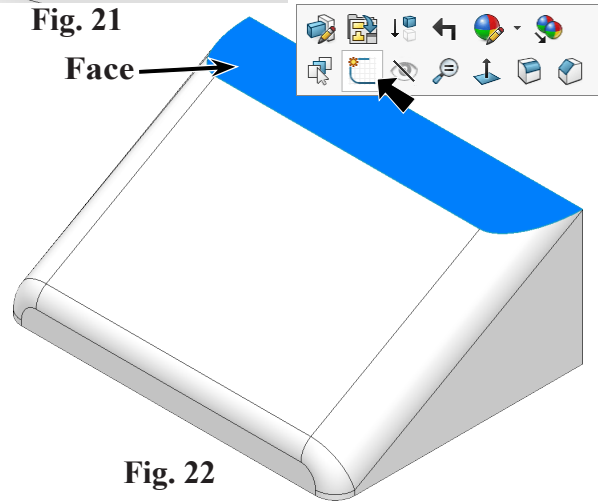
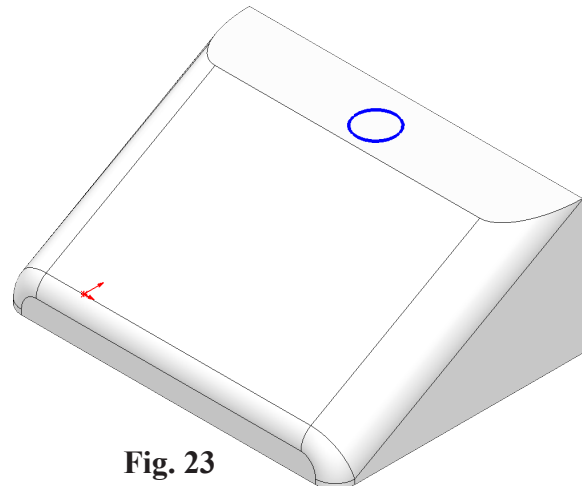

Fig. 22
Fig. 23
Step 2. Click the **top face** and click **Sketch**  on the context toolbar, **Fig. 22**.
Step 3. Click **Circle**  (S) on the Sketch toolbar.
Step 4. Sketch **circle on top face**, **Fig. 23**.